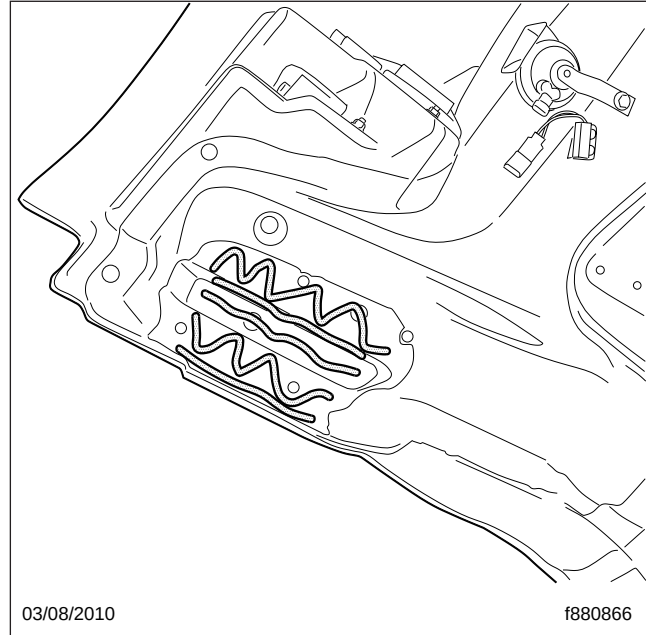

Fig. 5, Adhesive Application Pattern
14. Apply 3M Automix™ 8273 Adhesive to the bonding area on the hood. See Fig. 5.